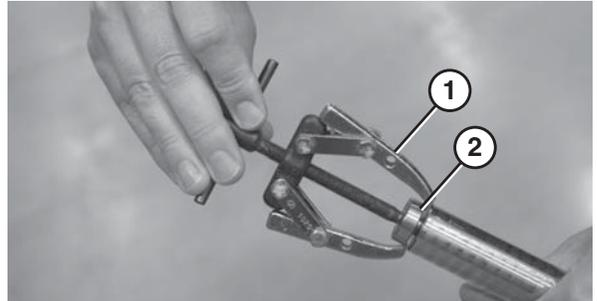

**Figure 52**
2. Twist the bearing out (**Figure 52, item 1**).